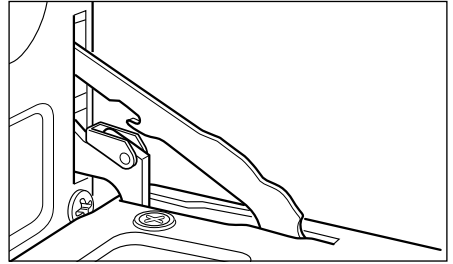
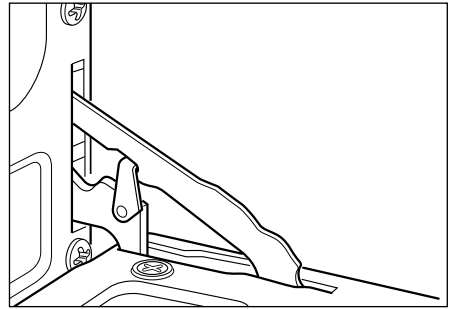

Fig.37a
Fig.37b
- 2 Hook the swivel retainers of the right-hand and left-hand hinges (Fig. 37a) onto the metal bar above them (Fig. 37b).